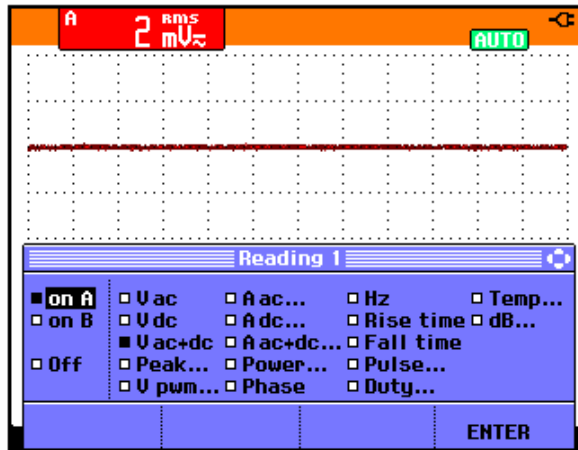

Figure 4-1. Menu item selection
- Open a menu, for example press , then press  (**READING 1**). The menu as showed in Figure 4-1 will be opened.